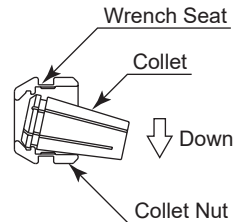
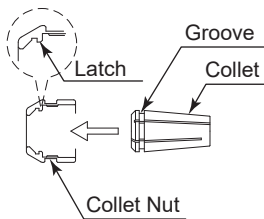

Fig. 9
Fig. 10
- ② The collet and collet nut are secured by a groove in the collet and a flange in the collet nut. To remove the collet hold the collet nut in one hand and push diagonally down on the collet. The collet should be released (Fig. 9).
- ③ To install the collet, hold the collet at a slight angle, and insert it into the collet nut (Fig. 10). Press the collet in the collet nut by positioning the collet in the collet nut and pressing down on flat surface (Fig. 9, Fig. 10).